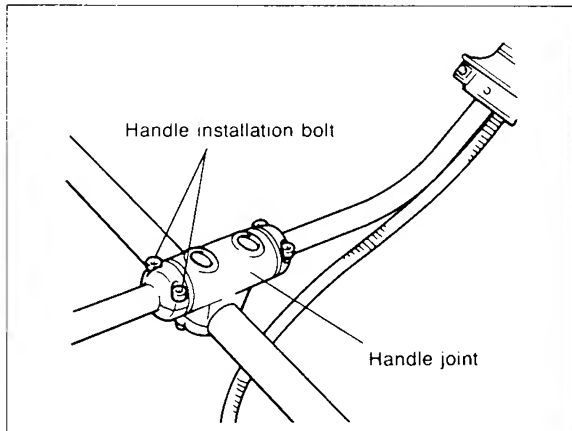

Fig. 10
2. Install the handle joint on the handle as shown in Fig. 10. Insert the installation bolt M6x45 through the holes in the handle. Semitighten the installation bolt M6x45.